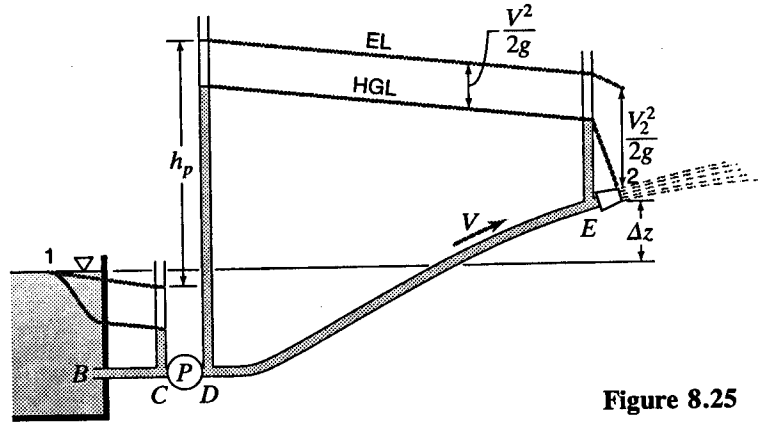

Figure 8.25
8.28.10 Refer to Fig. 8.25. When the pump is delivering 35 L/s of water, a pressure gage at D reads 175 kPa, while a vacuum gage at C reads 250 mmHg. The pressure gage at D is 600 mm higher than the vacuum gage at C. The pipe diameters are 100 mm for the suction pipe and 75 mm for the discharge pipe. Find the power delivered to the water.